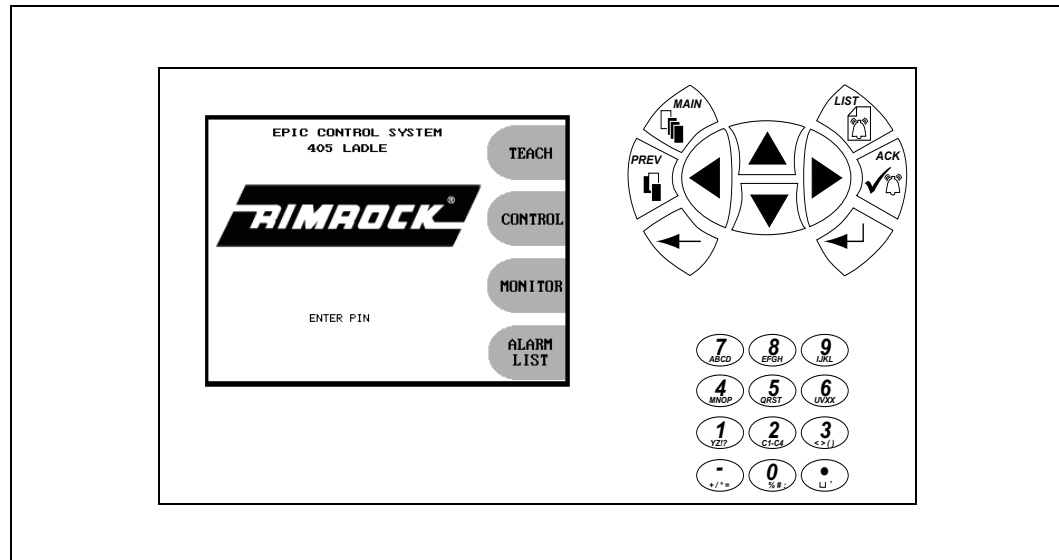

Figure 11-1: Main Screen with Built-In Function Keys and Alpha/Numeric Keys
1. Access the Main Screen by pressing the **MAIN** built-in function key (Figure 11-1). The screen will display “ENTER PIN”.